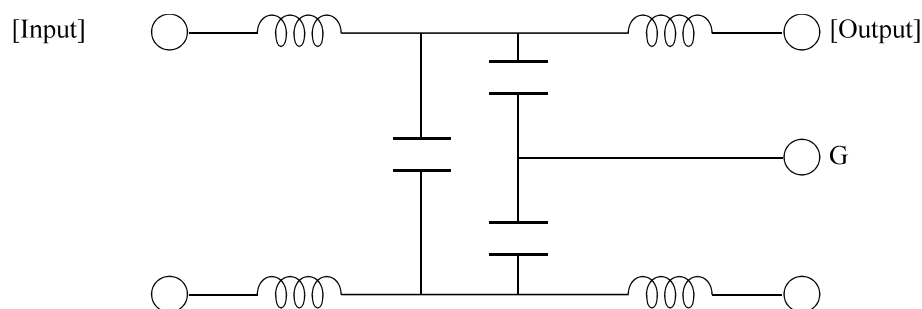

Figure 3.6 AC noise filter (recommended)
- Circuit construction: T-configuration as shown in Figure 3.6 is recommended.